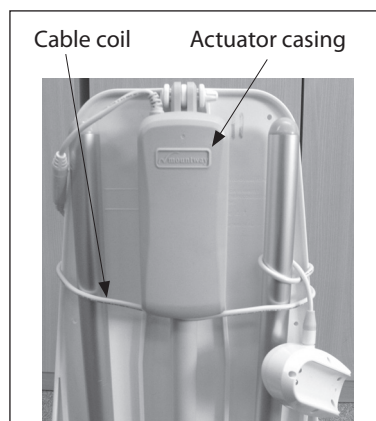

Figure 5
- Loop the remainder of the cable around one of the tubes(**fig 5**);